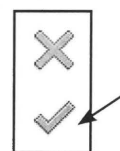

Fig. 04.36. *Finish Edit Mode*.
- Klik *Finish Edit Mode* (Fig. 04.36).